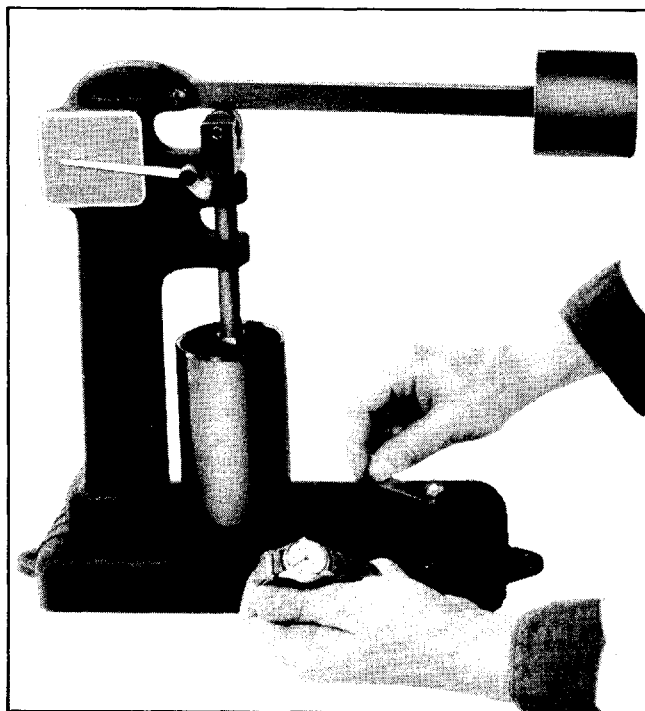

Fig. 6-52 Testing Leakdown Rate
After all lifters have been assembled, the leakdown rate must be checked before they are installed in the engine. Valve Lifter Leakdown Tester J-5790 (Fig. 6-52) is designed to test leakdown rate of lifters to determine whether or not they are within specified limits. As with previous service operations concerned with lifters, cleanliness is paramount. The tester cup, ram and ball should be thoroughly cleaned, and testing should be done in an area free of dust and dirt. The testing procedure is described in the following steps.
6. Raise weight arm to allow plunger spring to expand fully; lower arm onto ram and commence turning crank slowly (1 revolution every 2 seconds). Time indicator travel from lower line (first line above set line) to line marked .094", while still rotating cup with crank. (Fig. 6-52). Lifter is satisfactory if rate is between 9 and 30 seconds.